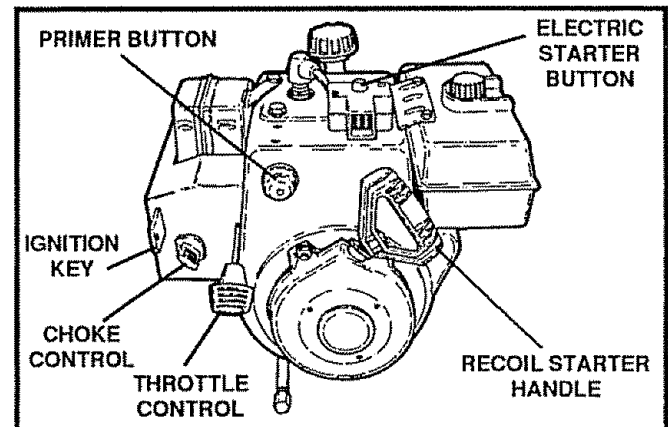

FIG. 11
- To stop the engine, push the throttle control lever to off and pull out the ignition key (See Fig. 11).